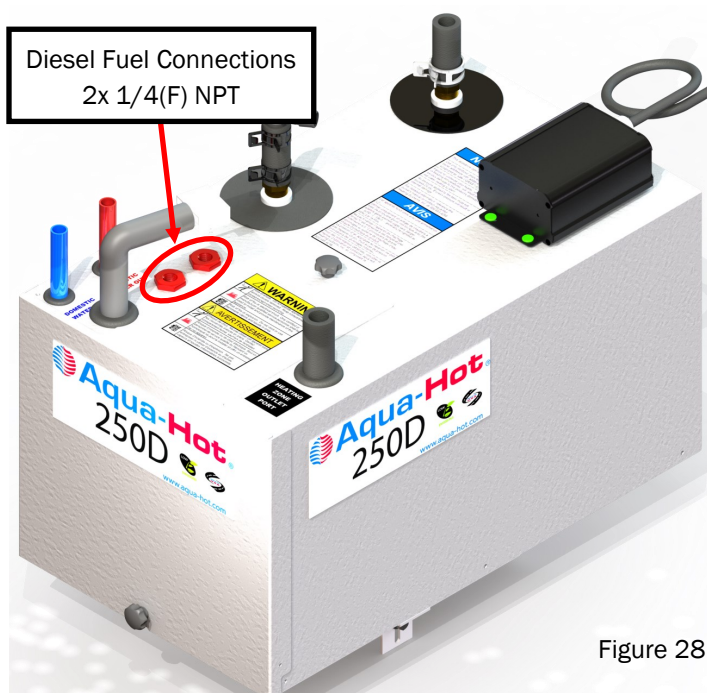

Figure 28
3. Install and tighten the appropriate fuel fittings onto the Aqua-Hot's fuel ports. Reference figure 28.